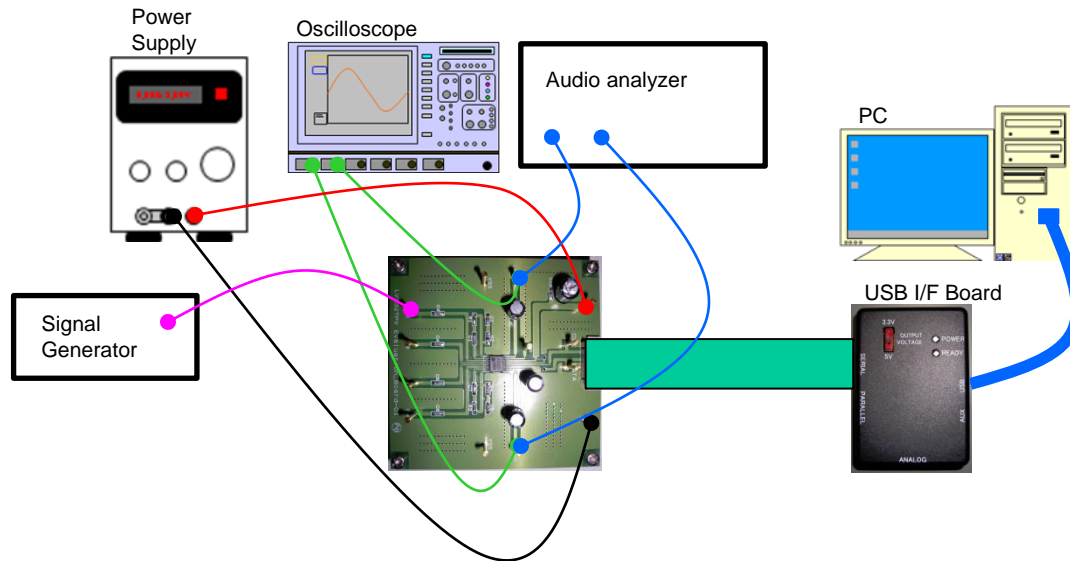

Fig 1
- ❑ Set up (Refer to Fig1)
- Set up (Refer to Fig1)
In the case of set up (Refer to Fig1) , IN1:signal input, other “input sel”: OPEN .